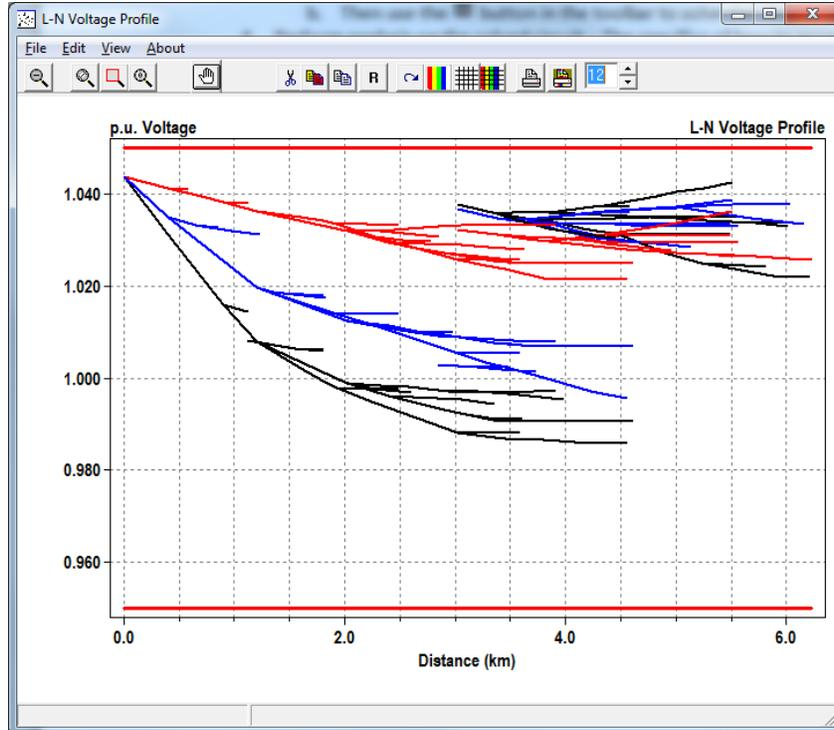

Figure 6. Voltage Profile for a Feeder
- b. *Visualize the voltage profile of the system* – Type `plot profile` into the main script window, and press Ctrl-D to Do that command. A voltage profile will come up showing how the voltage progresses as one progresses down the feeder; an example is provided in Figure 6. Additional parameter can be specified via the `plot` command; see the OpenDSS Manual for more details.